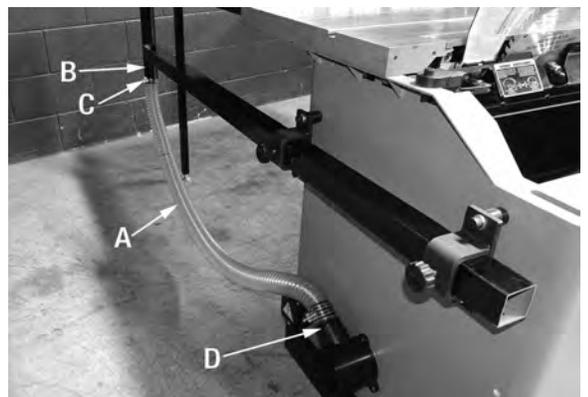

FIGURE 26
9. Install one end of the long 2" hose (A) Fig.26 to the overarm (B) as shown and secure it in place using a 2" wire clamp (C). Install the other end to the 2" inlet (D) on the 4" dust chute. Secure 2" hose using a 2" wire clamp (E).